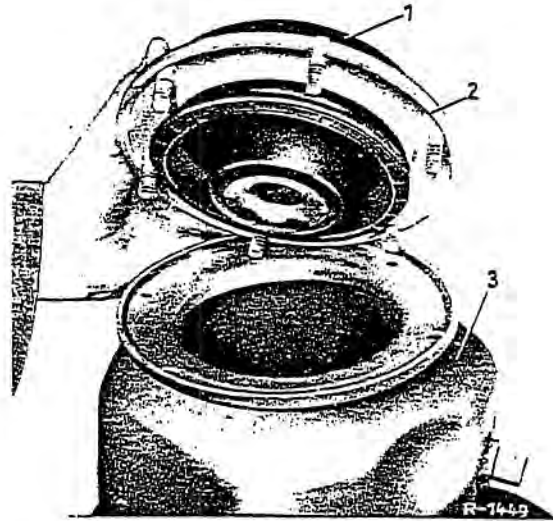

Fig. 32-14/14
2. After unscrewing the Phillips head screws, detach the bellows from the air chamber (Fig. 32-14/14).